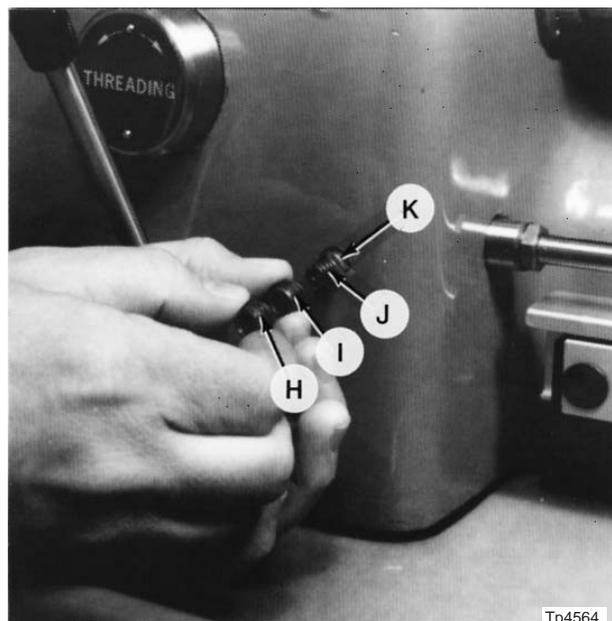

Figure 6.18 - Stop Rod Plunger Assembly
39. Remove lock screw "H", Figure 6.18, set screw "I", spring "J", and plunger "K".
18. Replace plunger "K", Figure 6.18, spring "J", and set screw "I".
19. Adjust set screw "I", Figure 6.18, to obtain the desired amount of detent on lever "B", Figure 6.1 .
20. Replace and tighten lock screw "H", Figure 6.18 .